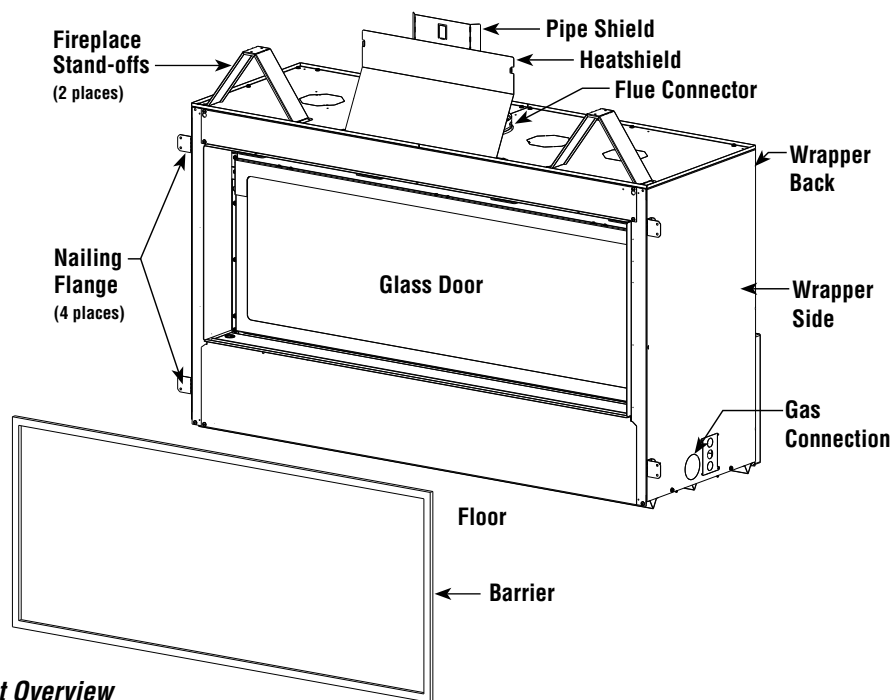

Figure 1 - Component Overview
- One (1), Ecoflow Wireless Wall Switch (Allume 48)
- One (1), Ecoflow Hand Held Remote (Allume DLX48)
- Four (4), AA Batteries
- One (1), Fireboard Top
- One (1), Fireboard Bottom
- Two (2), Fireboard Sides
- One (1) Heat Shield (*see Figure 1*)
- One (1) Pipe Shield (*see Figure 1*)
- Twelve (12) #10 Hex Head Screws